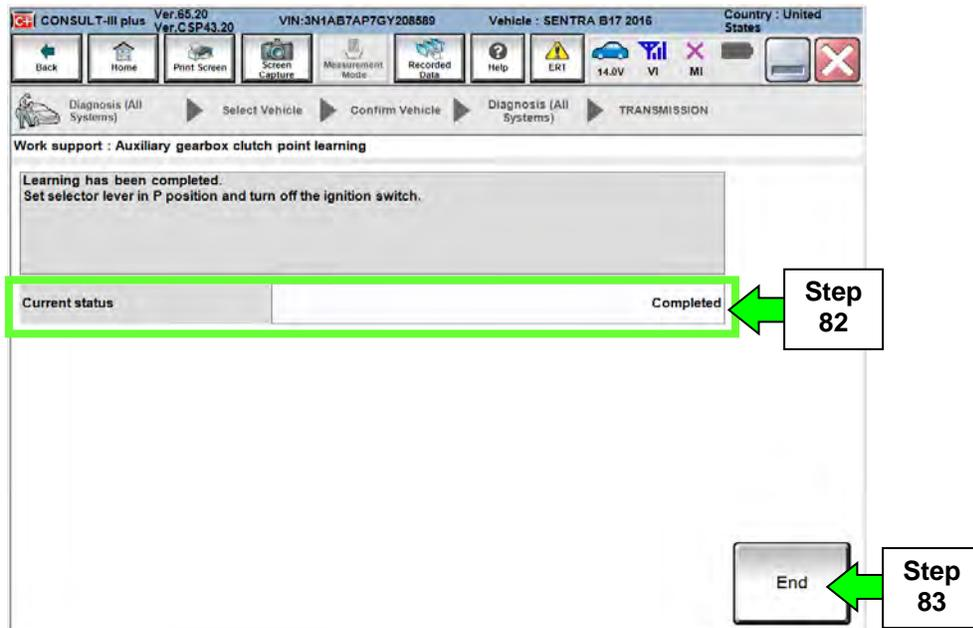

Figure 46
82. Continue to depress the brake pedal until the Current status shows “Completed” as shown in Figure 46.